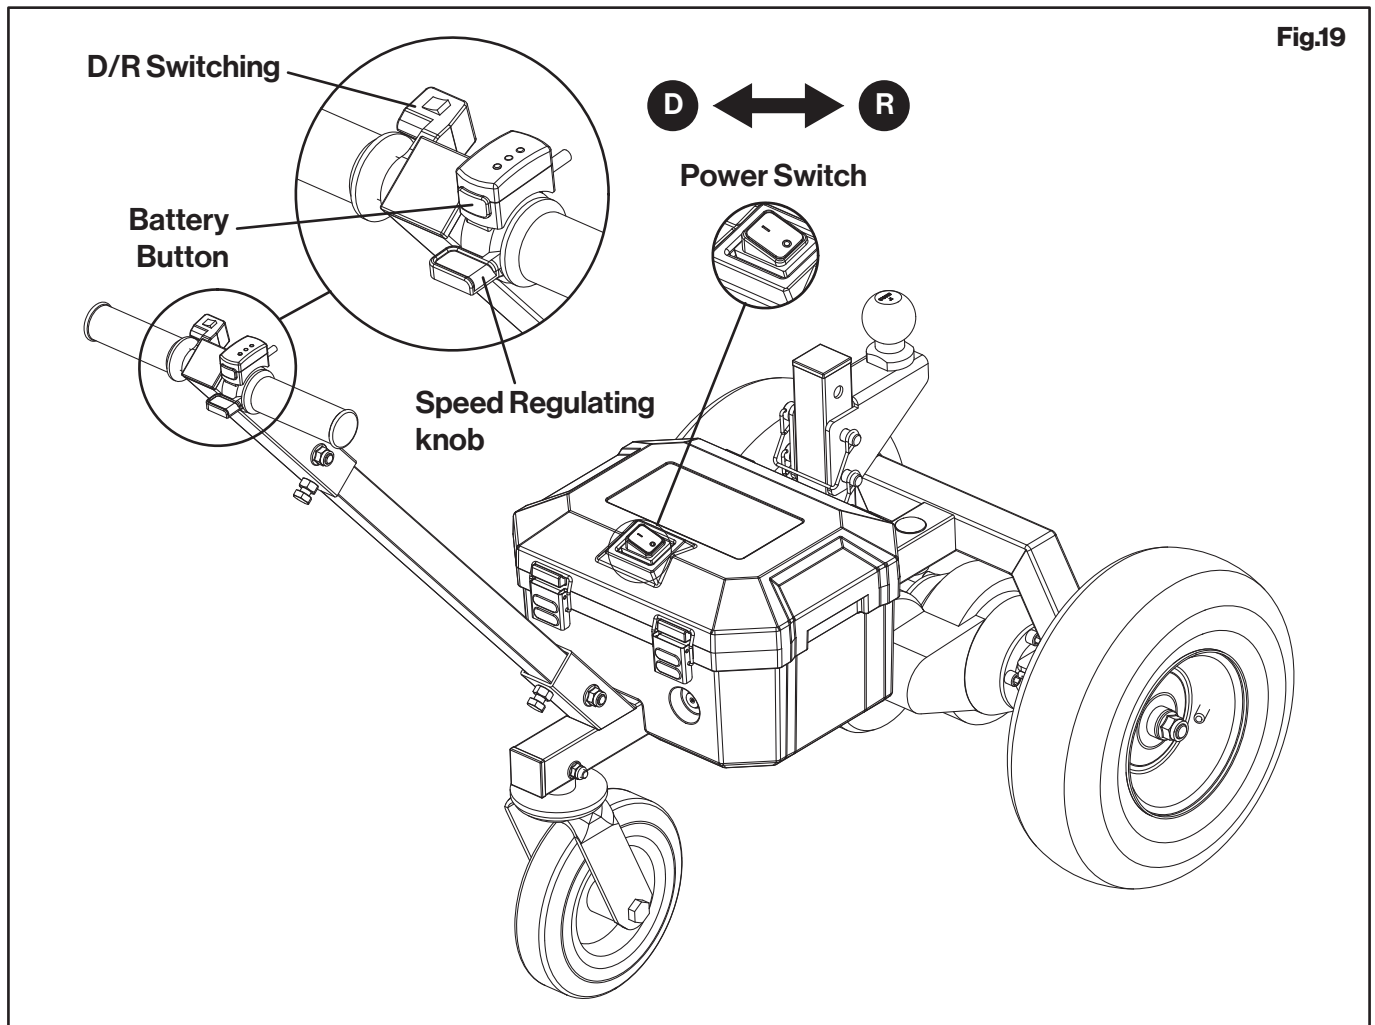

Fig.19
2. Switch on the power switch, and press the battery button on the speed regulating switch (the battery indicator lights up). Pull the steering switch to position "D" for dragging, and position "R" for pushing, move forward or backward as the arrow. Then press the speed control knob lightly, and the dolly starts to move. The moving speed can be controlled by the pressing force (0-2.5km/h Variable). **(Fig.19)**